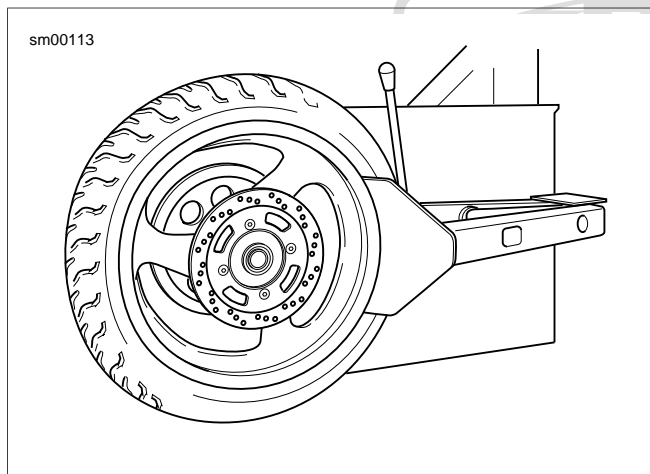

Figure 2-26. Loosening Beads from Rim Flange
3. See Figure 2-26. Loosen both tire beads from rim flange.